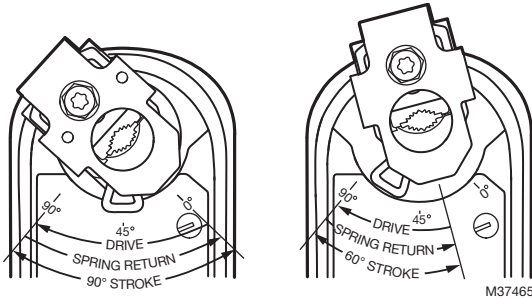

Fig. 7. Stroke reduction.
3. Rotate the coupling to the desired position, aligning it based on the stroke labeling. See Fig. 7.
EXAMPLE: Setting shaft coupling to an approximate fail-safe position of 30 degrees (as indicated on the housing) limits stroke to 60 degrees. (See Fig. 7)